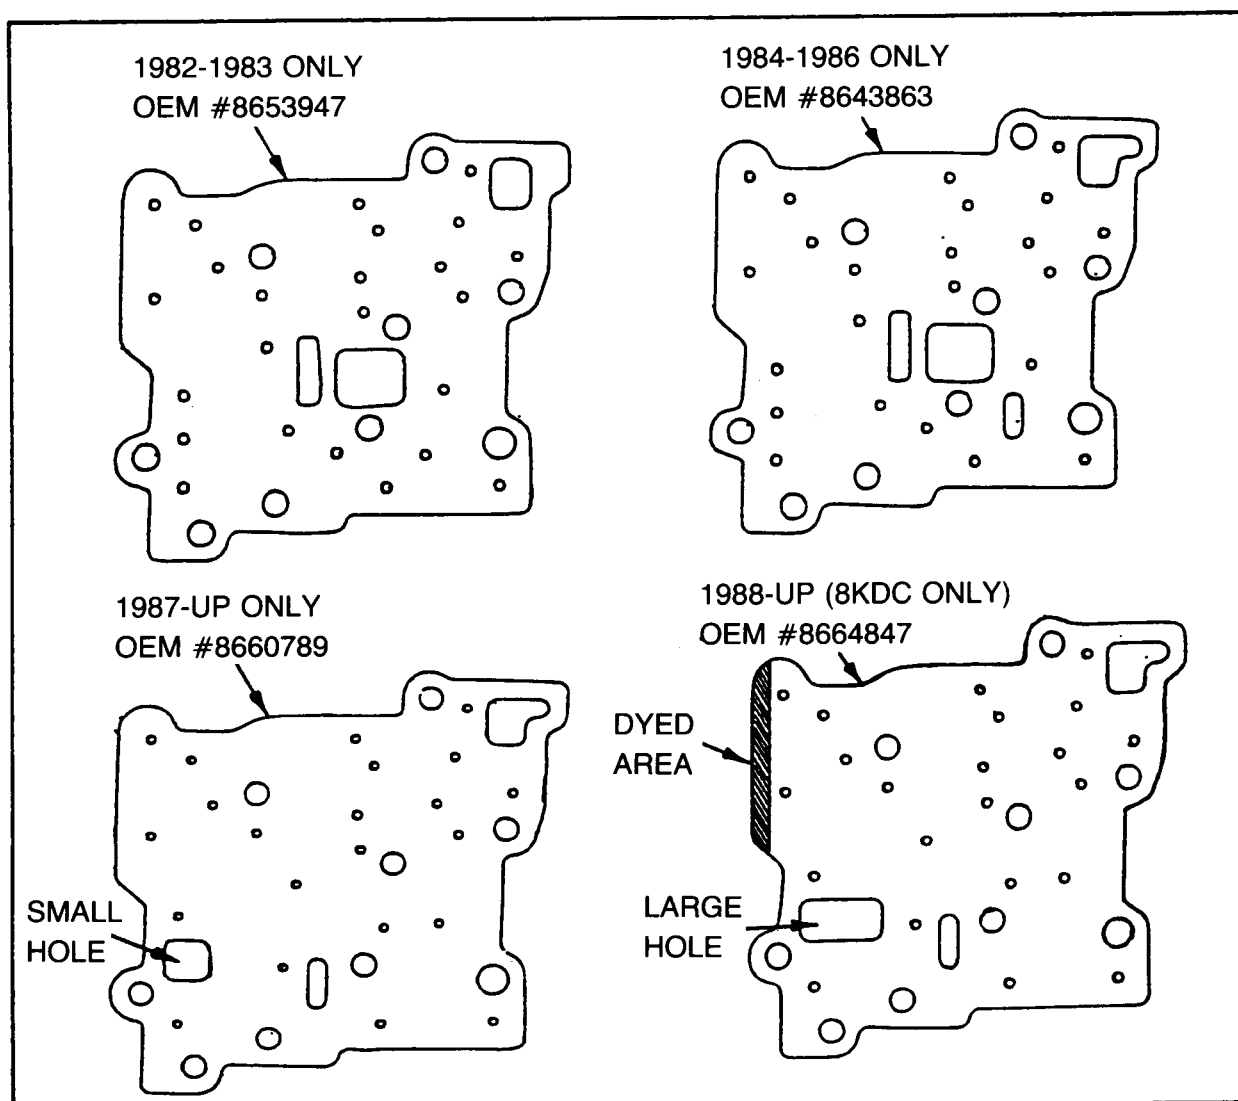

Figure 76
The new gasket has a larger hole than the 1987 gasket, and a dyed area on the gasket for identification (See Figure 76).
This now makes four (4) auxiliary valve body cover gaskets for the THM 125C, and they "CANNOT" be interchanged with each other. (See Figure 76).